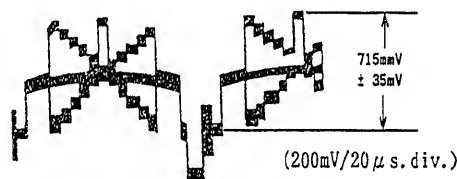

Fig. 2-18
# (2) Knee Adjustment (Fig. 2-18)